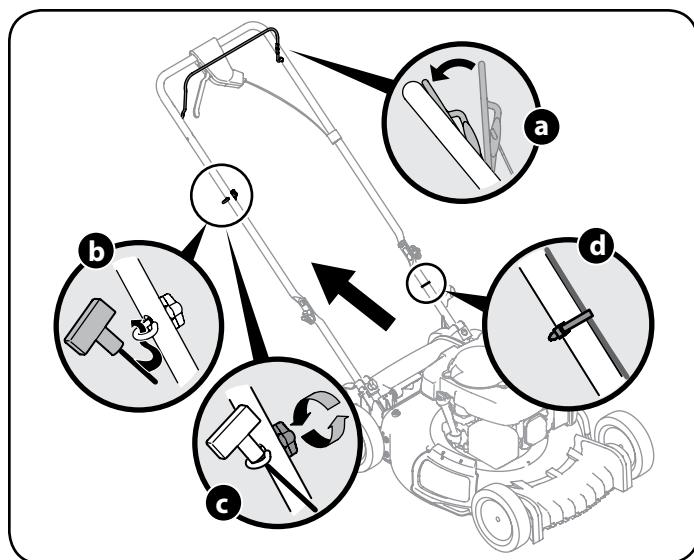

Figure 5
7. The rope guide is attached to the right side of the upper handle. Loosen the wing knob which secures the rope guide. Refer to Figure 5.
- b. Slowly pull starter rope handle from engine and slip starter rope into the rope guide. See Figure 5.
- d. Use cable ties provided to secure blade control and drive cables to lower handle as shown in Figure 5.